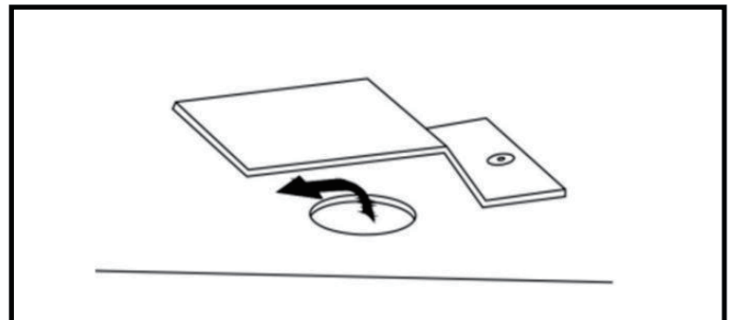

FIG 7
- Make an air inlet vent in the floor see FIG 7 behind the refrigerator near the gas burner.
- Shield the end of the opening with a deflector to prevent sludge or dirt from getting inside while driving see FIG 7.